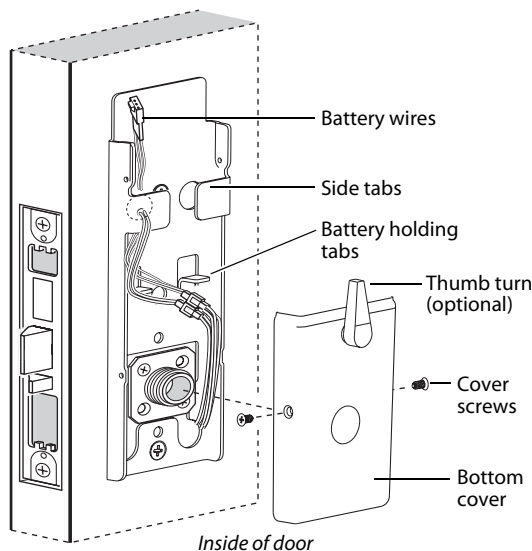

Figure 14 Installing the bottom cover
- 1 Position the battery wires above the side tabs and against the side of the fire plate, as shown in Figure 14.
- 2 **Optional for Thumb Turn option only:** Make sure that the Thumb Turn is in the upright position, as shown in Figure 14.